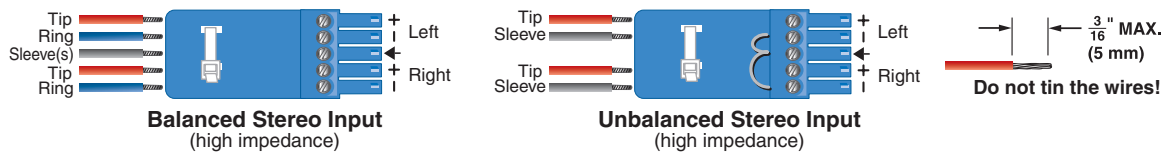

Figure 2. Audio Input Captive Screw Connector Wiring
- D Analog audio input** — Connect a balanced or unbalanced stereo line level audio device to this 5-pole 3.5 mm captive screw input. Wire the connector as shown in figure 2.